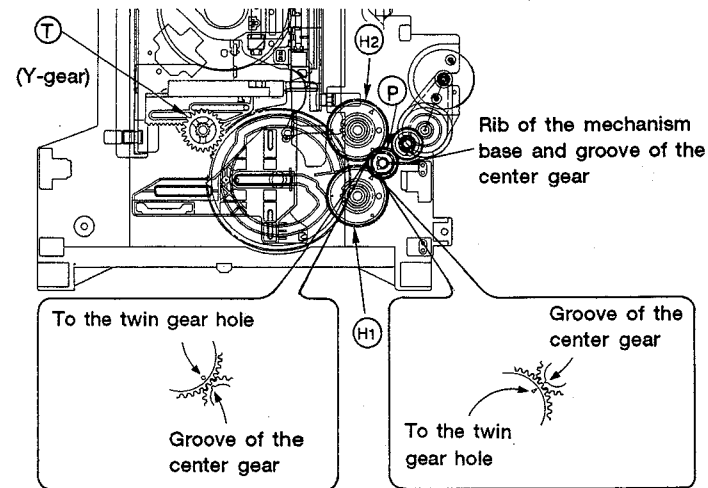

Fig. 1-11
- Attach the center gear ②, twin gears ③ and ④, and Y-gear ⑤ in the positions indicated in Fig. 1-11.